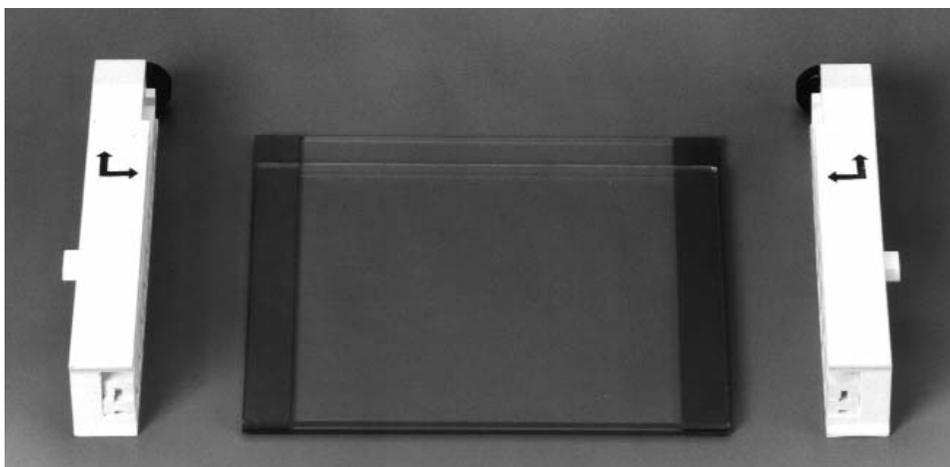

Fig. 5.2. Positioning glass plates, spacers, and clamps.
3. Loosen the single screw of each sandwich clamp by turning it counterclockwise. Place each clamp by the appropriate side of the gel sandwich with the locating arrows facing up and toward the glass plates (Figure 5.2).